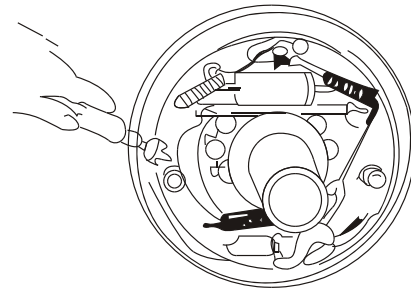

Fig.5-9
(3) Remove the primary shoe hold-down spring. (See Fig.5-9)